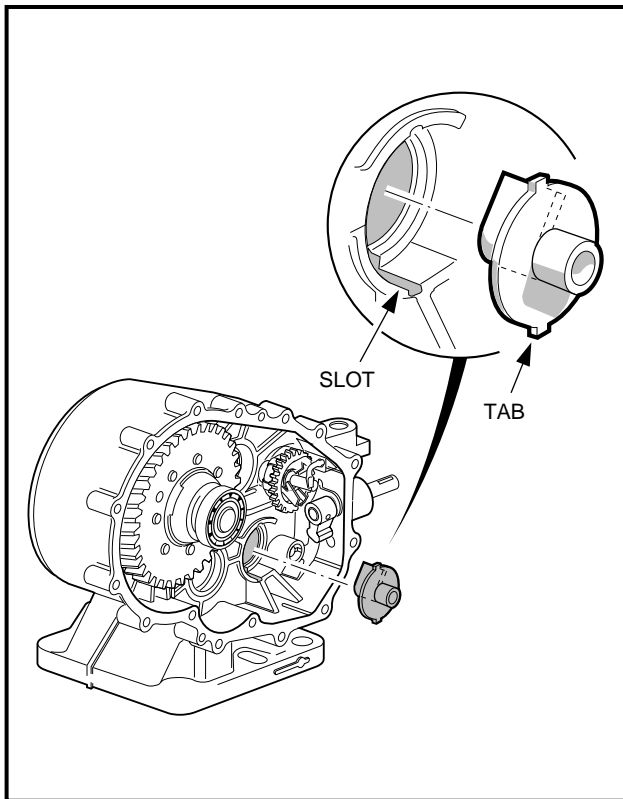

Figure 16-83 Oil Guide
- 7.3. Install the oil guide with the baffle toward the case wall as shown (**Figure 16-83, Page 16-34**). Make sure the two tabs on the guide are positioned in the slots in the case.